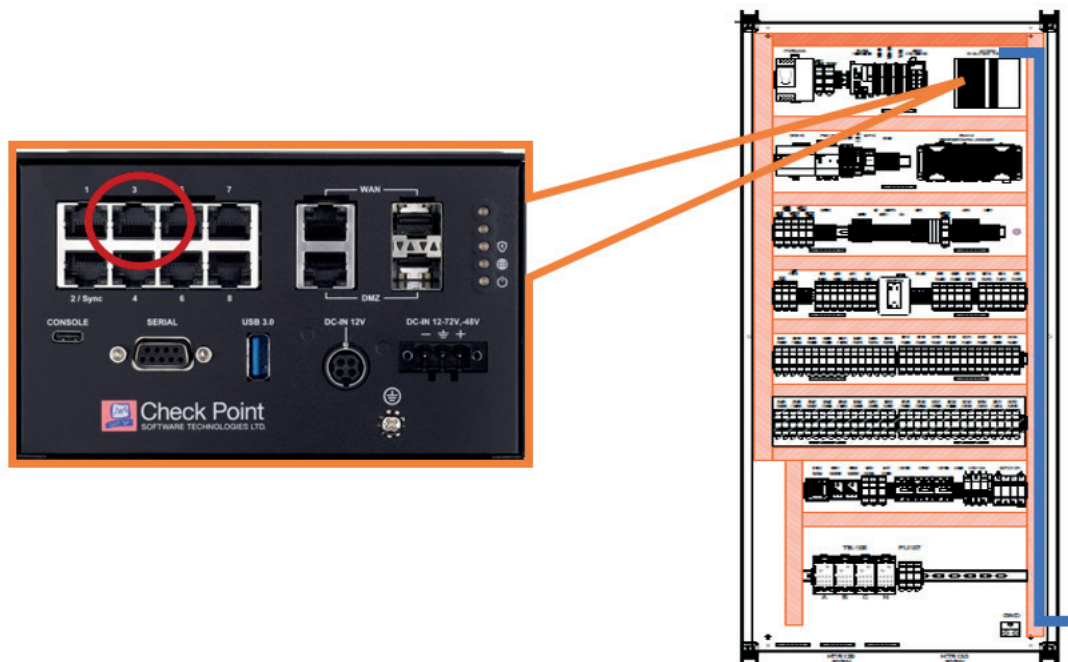

Figure 140. M-Cab XXL Location of C-Cab XXL Auxiliary Power Connection
- a. Route the shielded CAT 6 Ethernet cable as per Figure 140 to Ethernet router 1570R “ETH3” port.